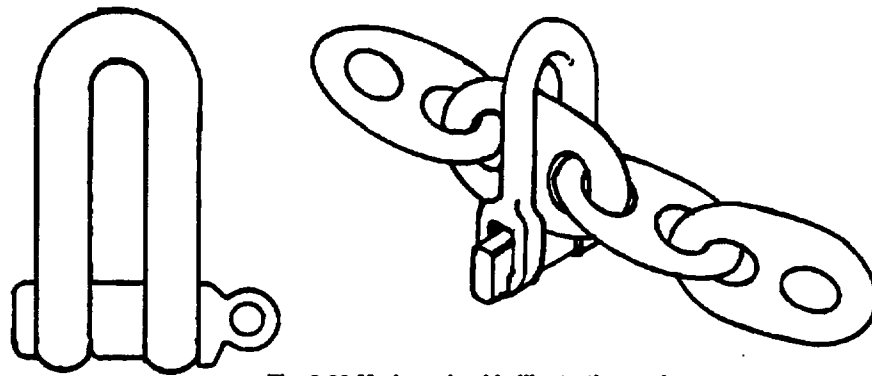

Fig. 2-22 Modex shackle illustration and use
- 3 Modeer Shackles. Modeer shackles are specially designed shackles for the handling of stud link chain. These shackles are meant to replace nipper chains which can slip and spill. Modeer shackles are narrow, elongated shackles with a removable keyed pin. To use the shackle, remove the pin and slip the shackle over a link of the chain. Keyed into the shackle, the pin gives a positive lock while under strain, but is easily removed when there is no strain. Because of the shackle's narrow shape, the chain cannot slip through it. Due to its elongated shape, there is room in the shackle for the boom hook after the shackle is in place over the chain (See **Figure 2-22**).